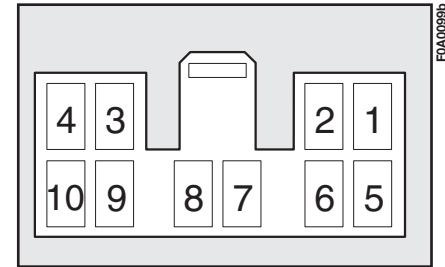

fig. 146
- a dual-purpose aerial connection wires and ten-pin connector wiring **fig. 146**.